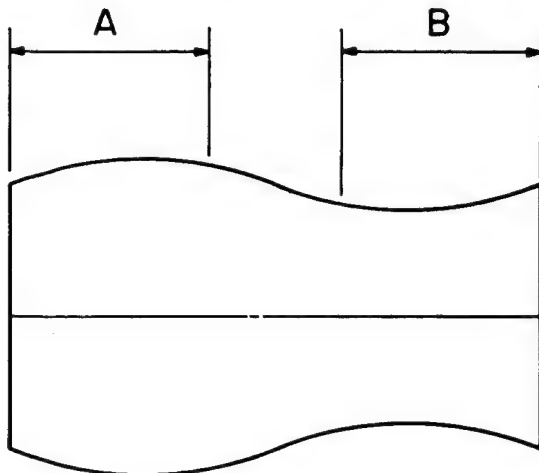

Fig. 7 Adjustment Points
4. If the section A in Fig. 7 does not meet the specification, adjust the S-guide roller up or down.
5. If the section B in Fig. 7 does not meet the specification, adjust T-guide roller up or down.